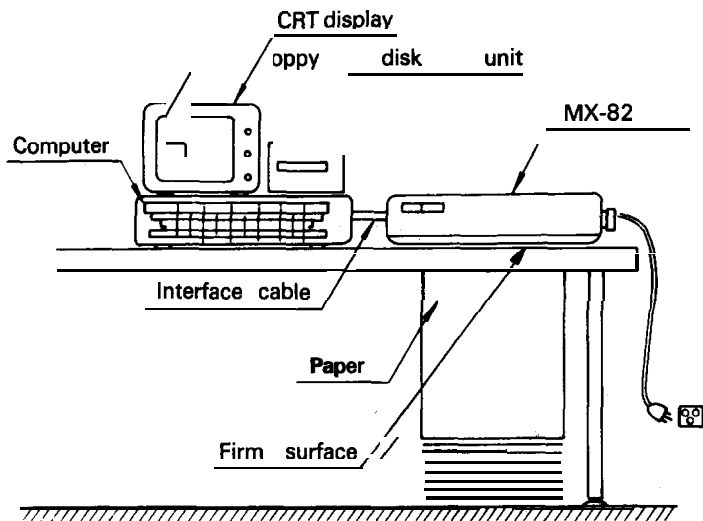

Fig. 3 Laying Printer on Firm Surface
- (a) Place the Printer on a bench, tabletop or any other convenient flat surface with enough room for the separator in the back of the Printer. Your layout may look like Fig. 3.